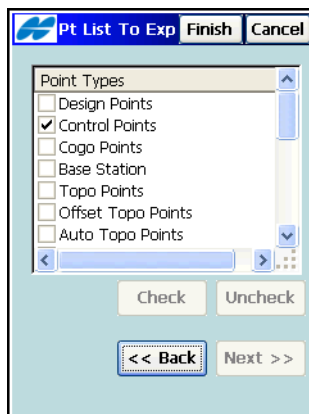

Figure 5-21. Select Point Type(s) to Export
4. If *By Type* or *By Type, Range and Code* was selected in the *Points* drop-down list, on the ***Point Type(s) to Export*** screen, select the types of points to be exported (Figure 5-21).